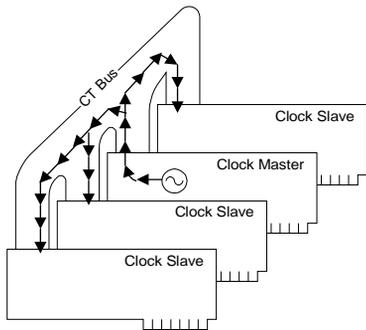

Figure 18. Timing Reference from OSC
- In a system with no digital telephone network interfaces, an on-board oscillator can be used as the timing reference to drive the clock signals. (See Figure 18.) This is called an *OSC* timing reference. OSC should be used only if there is no external clock source available.